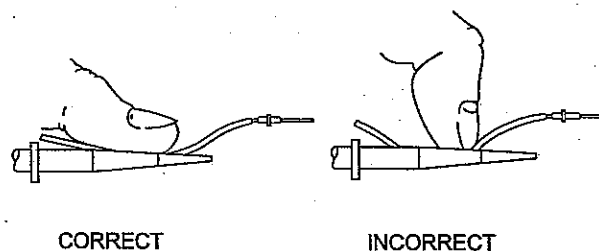

Fig 4 Loading contact insertion tool
- 6.2 Load the wire into the appropriate insertion tool (see Para 2) as shown in Fig 4. Place the wire into the slot and apply pressure with the thumb.